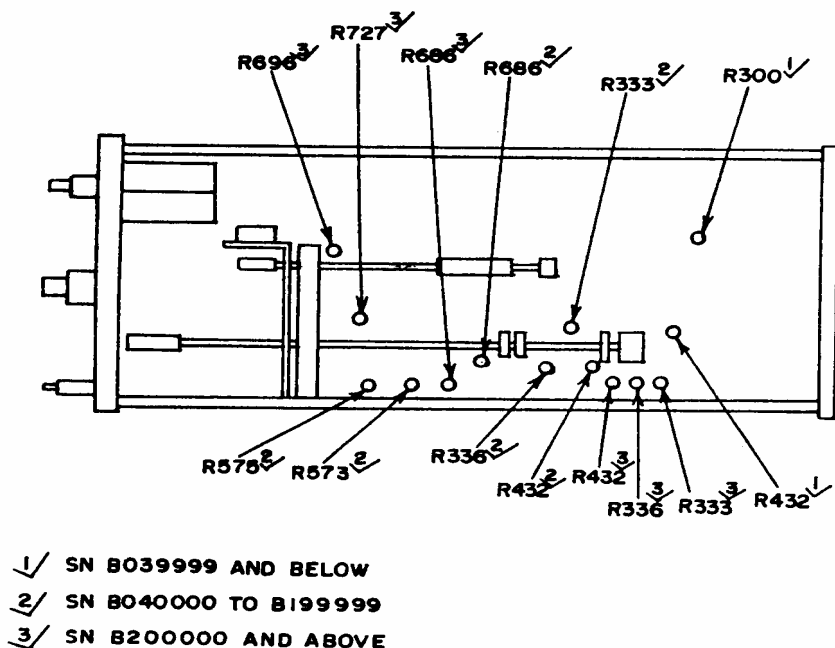

Figure 2. Adjustment locations - right side view (Type 7A13).
Interaction exists between R573 and R575 (fig. 2). If adjustments were made, repeat a (1) through (5) above for best compromise.
- (1) Adjust R573 (fig. 2) for a 10 V dc indication on multimeter (R). Adjust for best compromise between + and polarity.
- (2) Adjust R575 (fig. 2) for a 1 V dc indication on multimeter (R). Adjust for best compromise between + and - polarity.
- (3) Adjust R686 (fig. 2) for a +10 V dc indication on multimeter (R).
- (4) Adjust R727 (fig. 2) for a -10 V dc indication on multimeter (R).
- (5) Adjust R696 (fig. 2) for a +5 V dc indication on multimeter (R).